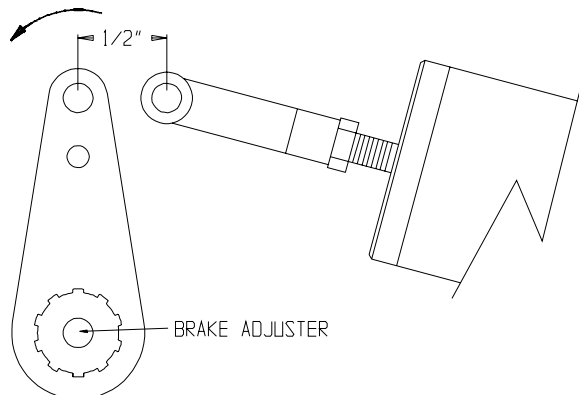

Figure 5-1. Brake Adjustment
8. Adjust brake cylinder clevis to obtain 1/2" between the center of the holes of the actuating lever and brake cylinder clevis. See Figure 5-1. Tighten jamb nut on brake cylinder rod against clevis. Note: It is important that the brake cylinder reaches it's maximum stroke before the caliper to prevent damage to the caliper.